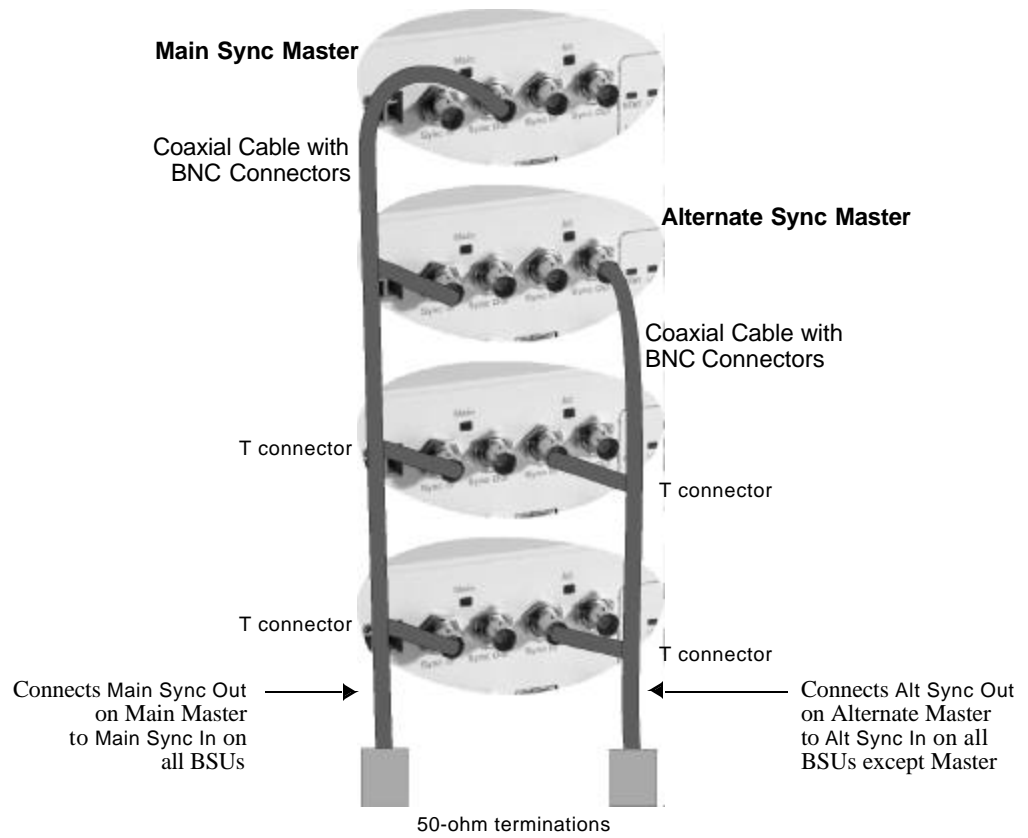

Figure4-4 Sync Connections for Multiple BSUs
To properly identify wireless channel time slots, multiple colocated Base Station Units need to be synchronized to the same framing signal. This is done by interconnecting the units' **Sync** connectors, as shown in *Figure4-4*. When there are three or more Base Station Units, a main and alternate sync signal source for the framing signal should be chosen; with two Base Station Units, no alternate is necessary.
4. Connect the **Main Sync Out** connector on the main sync signal source to the **Main Sync In** connectors on all other Base Station Units, as shown in *Figure 4-4*.
5. Connect the **Alt Sync Out** connector on the alternate sync signal source to the **Alt Sync In** connectors on all other Base Station Units *except the main sync signal source*, as shown in *Figure4-4*.